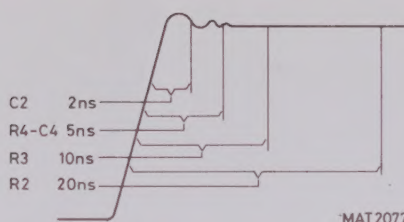

Figure 16.7 Adjusting elements v.s. h.f. step response
- Adjust the adjusting elements according to figure 16.7.